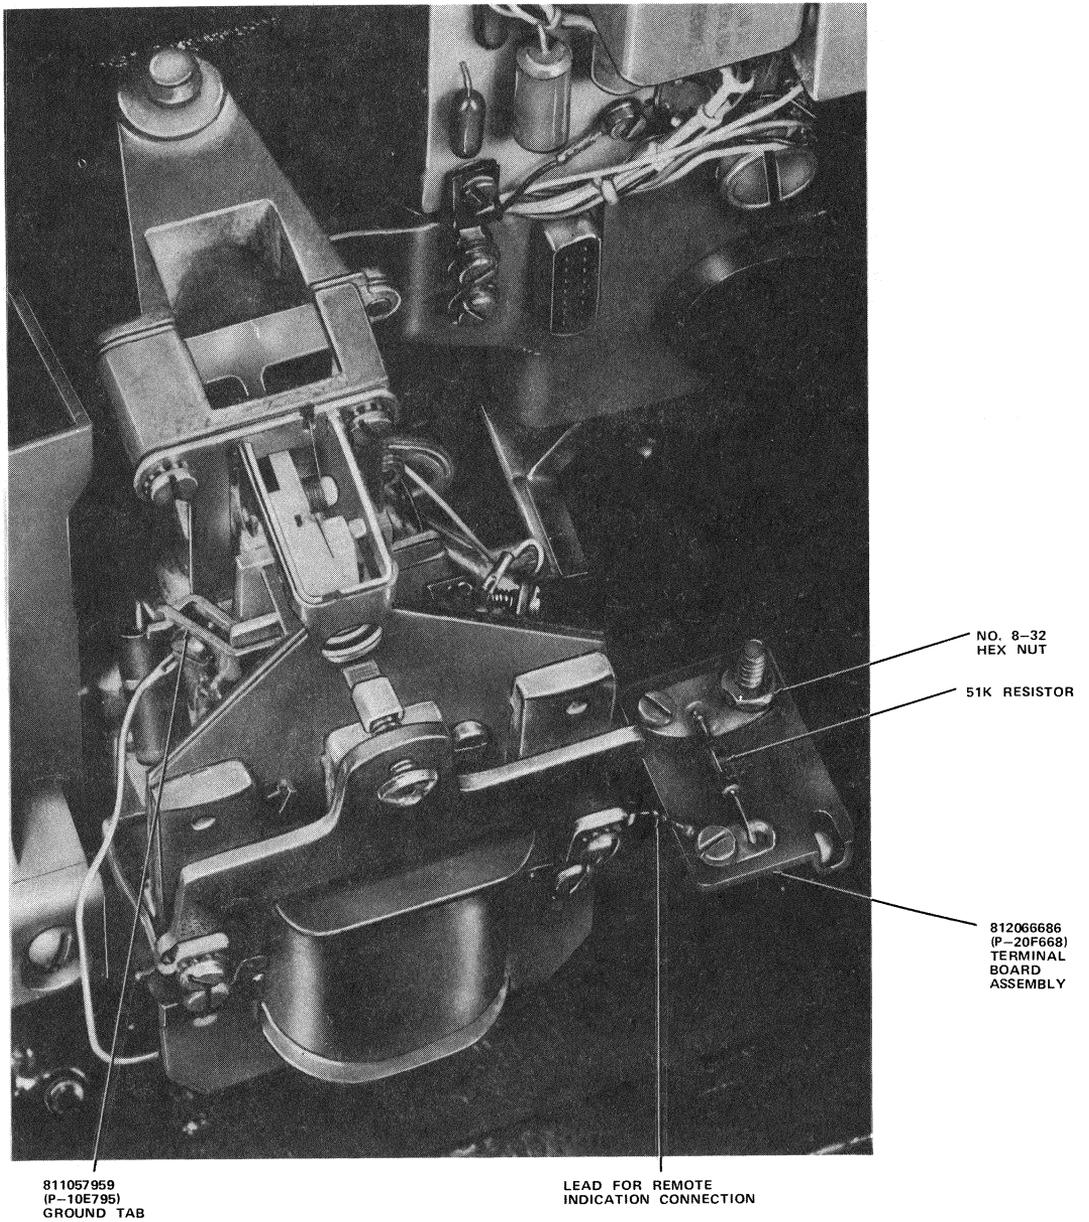

Fig. 8—Installation of Terminal Board Assembly
- (3) Clamp the 1B rail to the housing during the drilling operation using the C-clamp described in paragraph 3.01.
- (4) Using the 1/4-inch drill described in paragraph 3.01, drill the hole through the housing.
- (5) Remove the screw and drilling template.
- (6) Using the 1/4-inch drill, enlarge the hole where the screw was removed.
- (7) Using a suitable file, remove all burrs from the 1B rail.
- (8) Remove the C-clamp.
- (9) Remove all drill chips from the telephone set.
- (10) Position the insulation strip against the 1B rail with the boss on the strip in the 1/4-inch mounting screw hole (Fig. 7). Hold the contact springs in place with the stud extending through the hole drilled in the base, and fasten the terminal board in place on the housing base with the nut and lockwasher provided (Fig. 8).
- (11) Reinstall coin chute and coin chassis [see paragraph 3.05(7)].
the hole drilled in the base, and fasten the terminal board in place on the housing base with the nut and blockwasher provided (Fig. 8).
relay (Fig. 8). Care must be taken not to alter the adjustment of the coin relay by bending the spring member. Connect the spade tip of the lead to the front terminal on the terminal board.